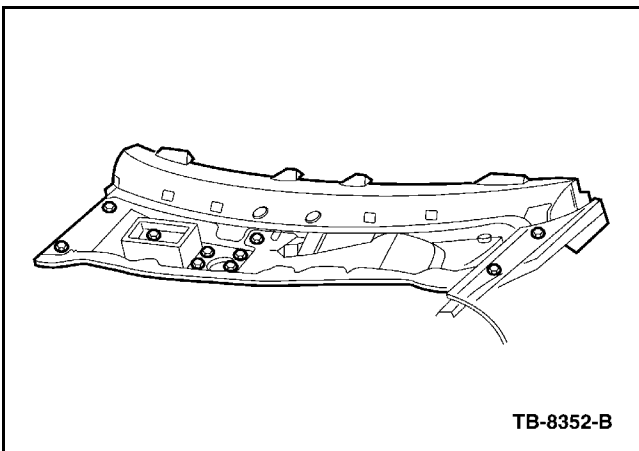

Figure 4 - Article 088-2005-5551
7. Remove the lower cowl panel assembly (Figure 4).